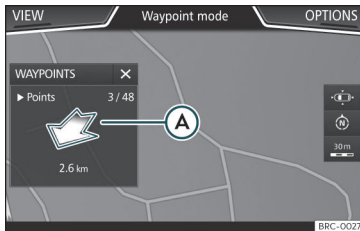

Fig. 187 Offroad route guidance mode
- The general direction of travel is indicated straight ahead by direction arrows in the Infotainment System pop-up window >>> **Fig. 187** .